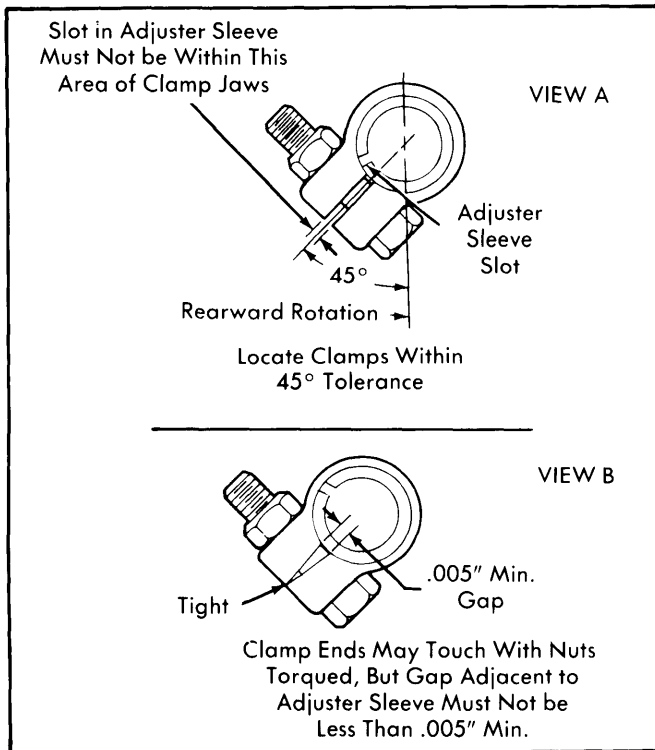

Fig. 6 Tie Rod Clamp Position "C", "K" and "P" Models
4) Before tightening tie rod adjusting sleeve clamp bolt, note the following: Clamps must be between locating dimples at either end of sleeve. Adjuster sleeve slot must not be within open area of clamp jaw opening (see Fig. 6 and 7). Slot in adjuster sleeve must not be within open area of clamp jaws.